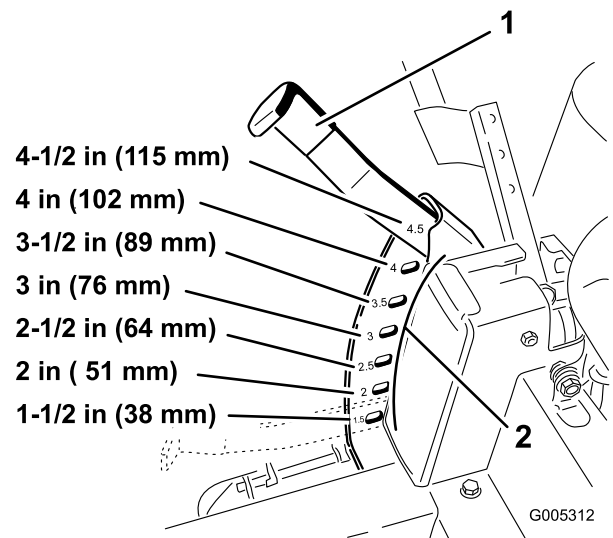

Figure 14
1. Raise the height-of-cut lever to the transport position, cutting height position 4.5 (also the 4-1/2 inch [115 mm]) (Figure 14).